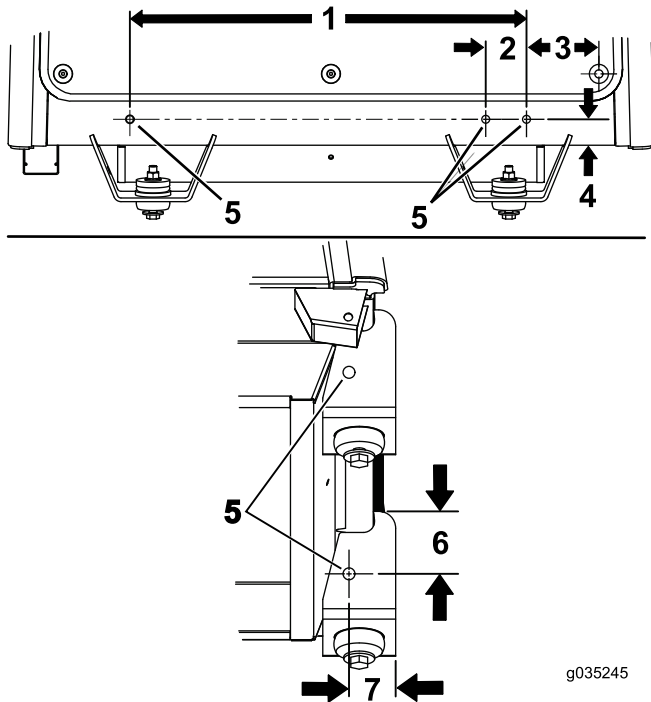

Figure 1
1. Mark the location and drill the holes into the cab as shown in Figure 1.